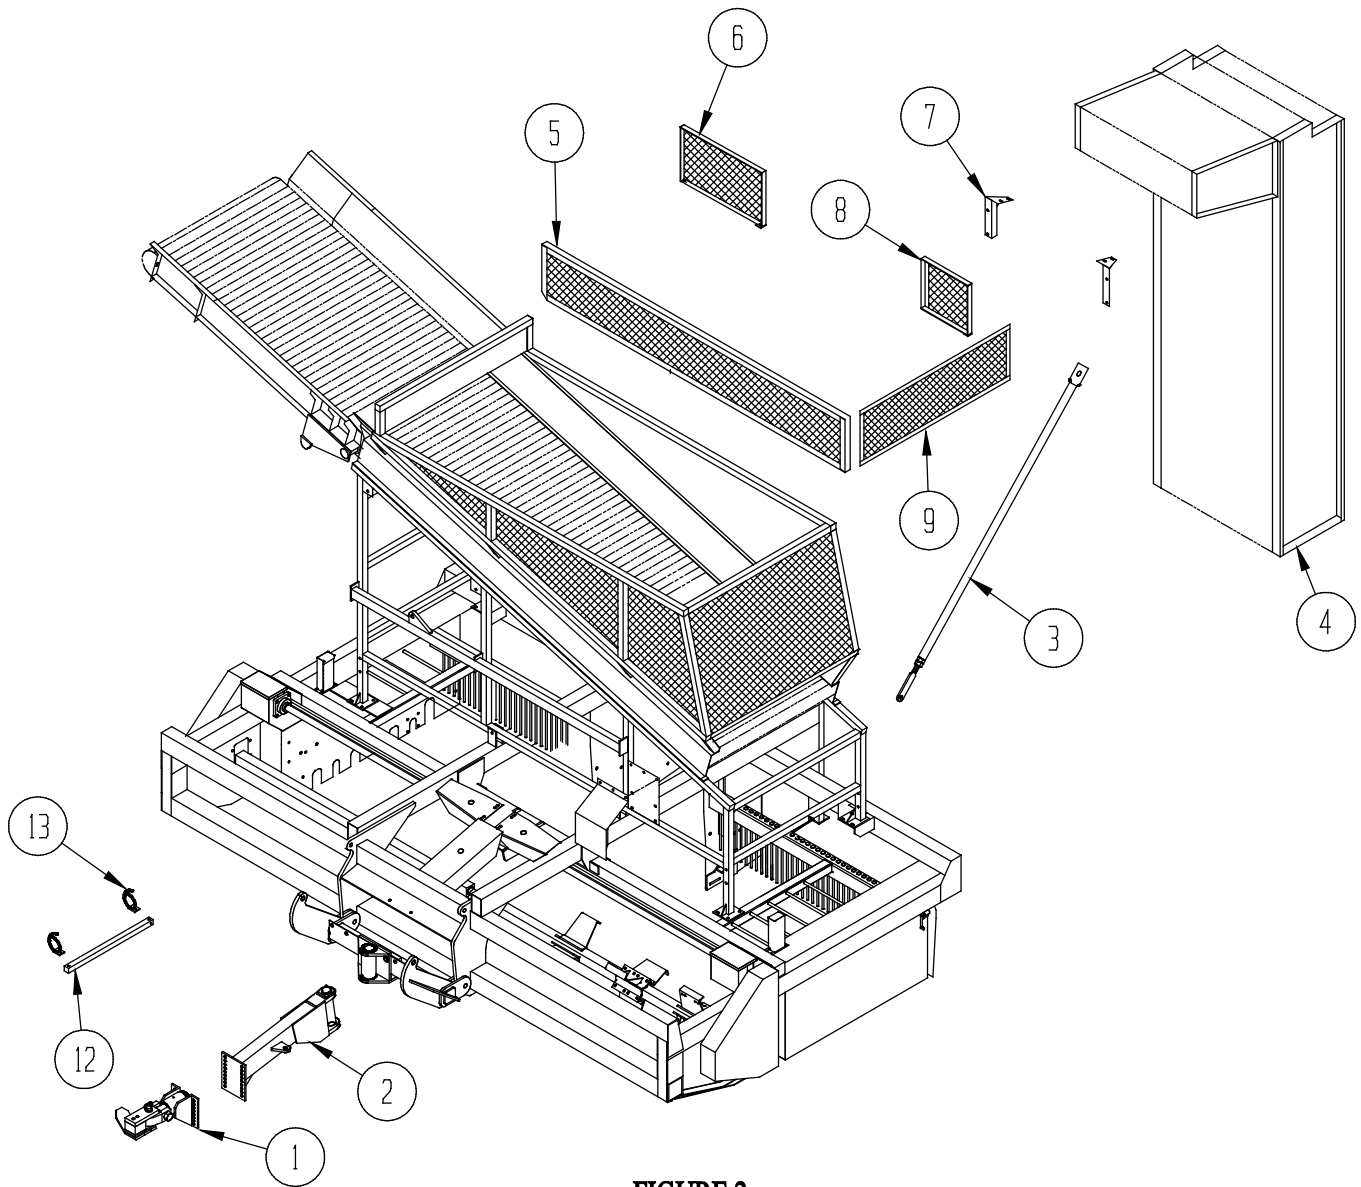

FIGURE 2
Step 5: With the use of a fork lift or other suitable means of lifting, lift the rear elevator into place and attach lower support angles (Item #5, Figure 2) to main frame using (8) 5/8 x 3 hex bolts, nuts, lock & flat washers. Do not completely tighten the nuts at this time.
Step 6: Attach the top elevator mounting brackets (Item #7, Figure 2) to the hopper and then bolt the elevator discharge panels to these brackets. Now, **after re-checking to be sure the elevator frame is still square**, tighten all bolts and nuts securely.
Step 8: Install the support rod assembly (Item #3, Figure 2.) on the right hand side of the frame using (2) 5/8 x 1 $\frac{3}{4}$ hex bolts, hex nuts and lock washers.
Step 9: Install all hopper railings (Items #5, #6, #7 & #8, Figure 2).
Step 10: Install the tongue assembly (Item #2, Figure 2) and the heavy-duty swivel hitch